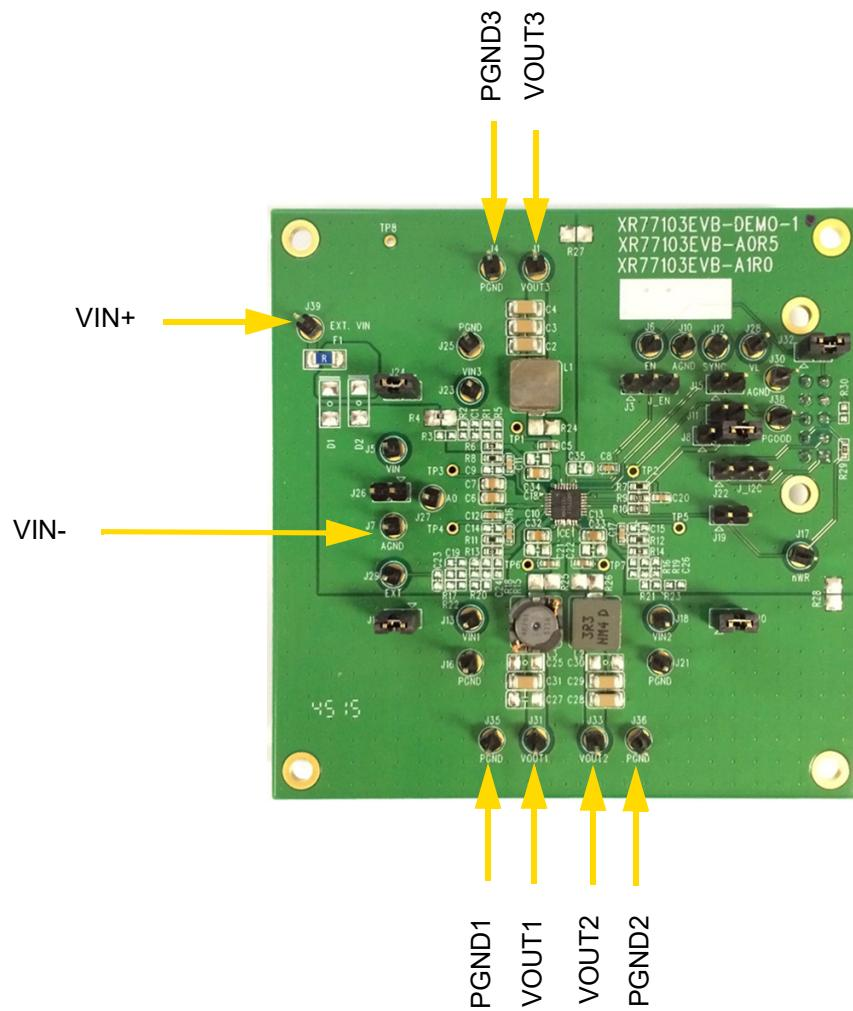

Figure 1: Connecting and Monitoring V_{IN} and V_{OUT}
2. Connect a turned-off power supply that is within the above V_{IN} specification (5.5V to 14V, 12V typical) to V_{IN+} and V_{IN-} with short and thick leads. Use test pins EXT. VIN (J39) and AGND (J7) to connect and monitor V_{IN+} and V_{IN-} respectively. See locations in Figure 1.
3. Initially set to 0A, connect electronic loads to each desired channel that will be no more than the maximum I_{OUT} (2A) to VOUTx and PGNDx (where x = the channel number) with short and thick leads. Use test pins in Table 1 to connect and monitor VOUTx and PGNDx respectively. See locations in Figure 1. For all channels with the electronic load connected, ensure that the respective V_{IN} jumper is installed per Table 1.